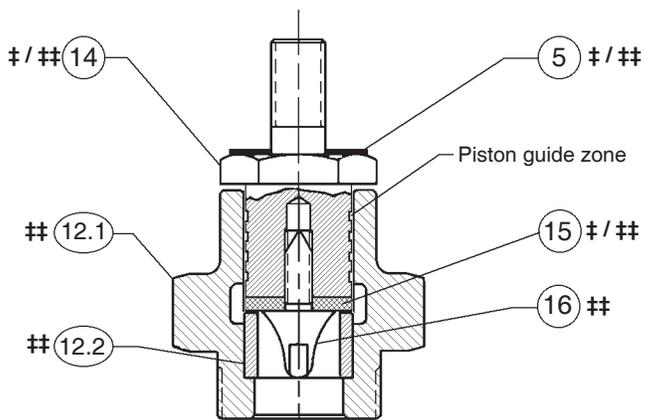

Figure 3: Composition Seat
2. Remove the cylinder sub-assembly (12) from the body (1) by rotating CCW.
- c. At metal-to-metal surface between body (1) and cylinder (12). If wear exists here, consult factory.
- d. Where the piston (24) ribbed guides bear (guide zone). See Figure 3.